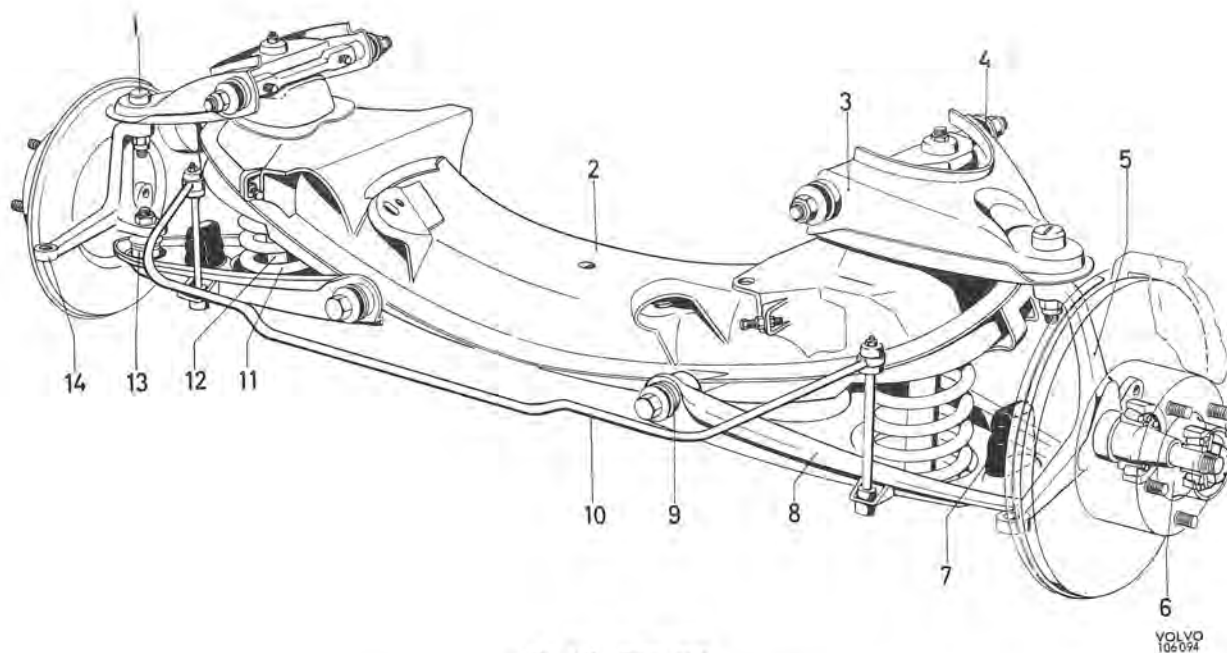

Fig. 6-11. Front axle
The vehicle has independent front wheel suspension. This means that there is no actual front axle, this being replaced by a strong box-section front axle member. This member is bolted to the self-supporting body and the front wheel suspension and springs are fitted at the ends of the member. The construction is illustrated in Fig. 6-11.
The front wheels are carried in taper roller bearings (Fig. 6-11). The front spring assembly consists of coil springs (11) inside which telescopic shock absorbers (12) are fitted. In order to increase its anti-rolling properties, the car is equipped with a stabilizer (10), which is anchored partly to the lower control arms (8) and partly to the body.